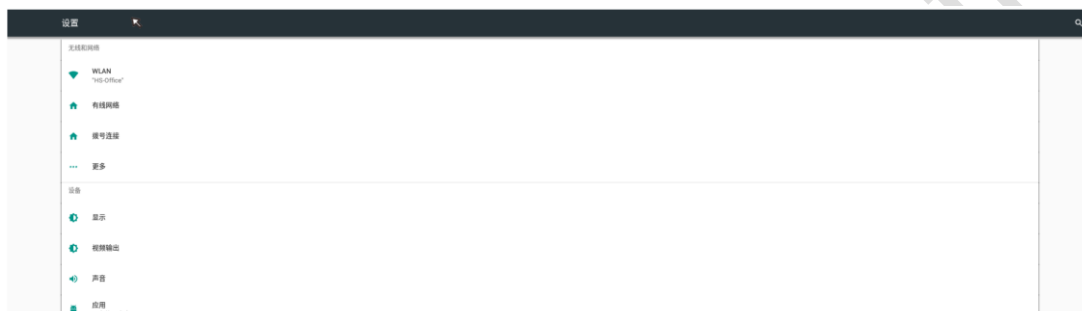

Figure 4-1 Network settings selection page
1. On the device's system desktop, tap **Settings** to open the Settings page, as shown in *Figure 4-1*.